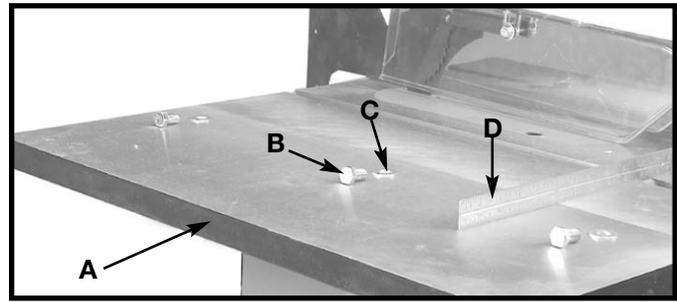

Fig. 35
1. Assemble extension wing (A) Fig. 35, to the saw table using three 7/16-20 x 1-1/4" bolts (B) and lockwashers (C) Fig. 35.
2. With a straight edge (D) Fig. 35, make certain the extension wing (A) is level with the saw table **before tightening three bolts (B) Fig. 36.**